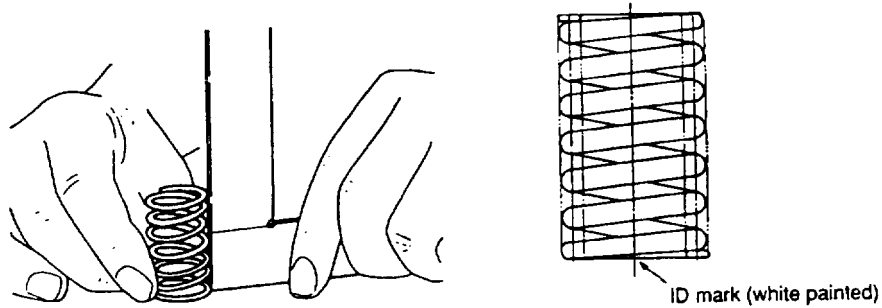

Figure 6-40 Valve spring
- 4) Measure the spring tension (on a spring tension tester) (see Figure 6-40).